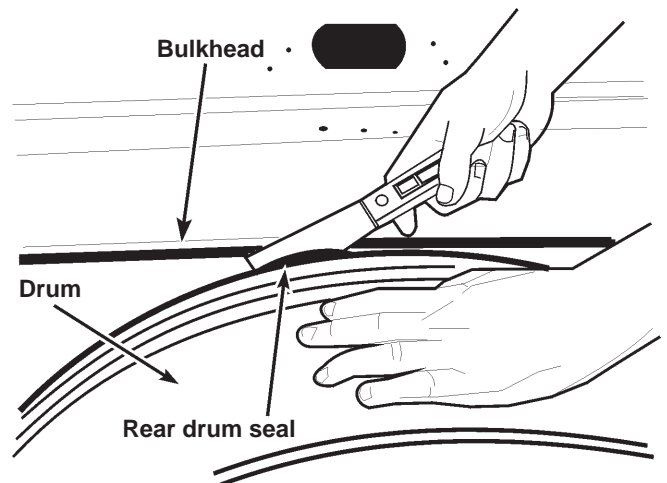

Figure 5
6. Place a small screwdriver or putty knife under the seal and on top of the bulkhead. See Figure 5.